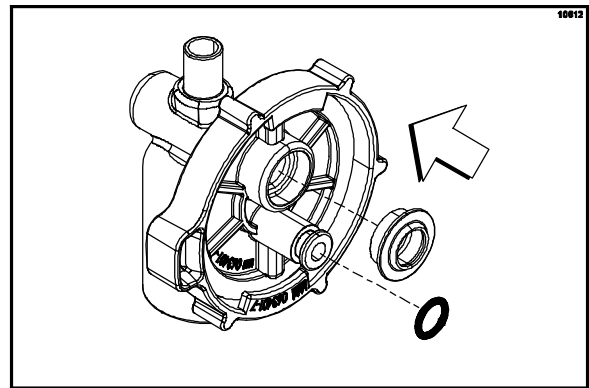

Figure 9
6. Install the o-ring and the sliding seal on the back of the pump head. (See Figure 9.)